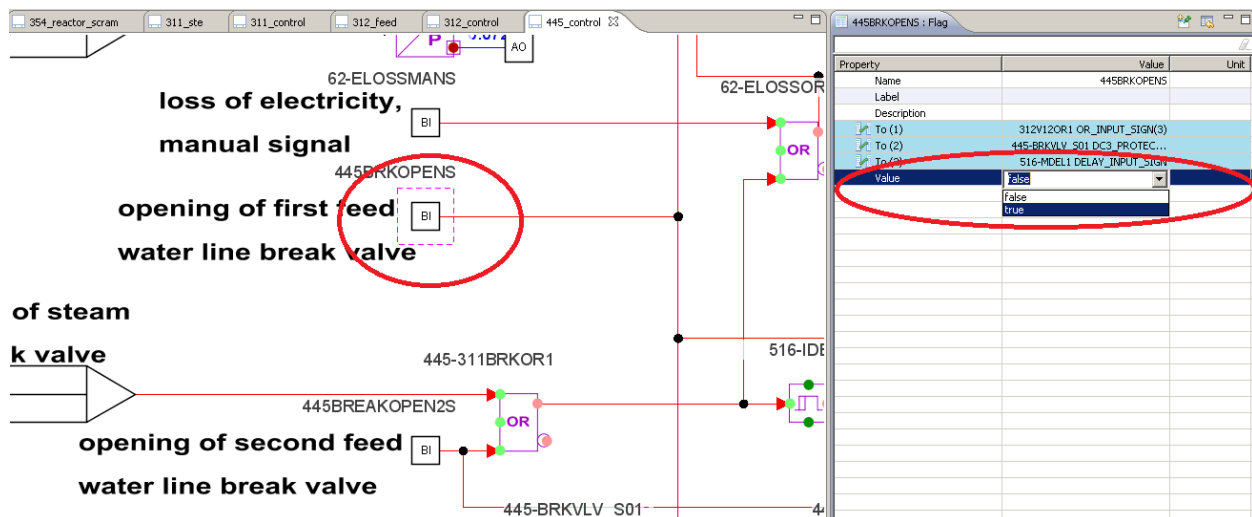

Figure 9. Opening the first feed water line break valve by activating the “445BRKOPENS” signal
10. The break valve is opened when signal 445BRKOPENS in the “445_control” diagram is changed from F->T (see Figure 9).